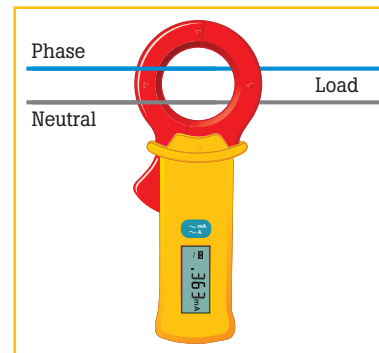

Figure 1
**Test single-phase circuits** by clamping the phase and neutral conductor. The measured value will be any current flowing to ground. (See Figure 1)